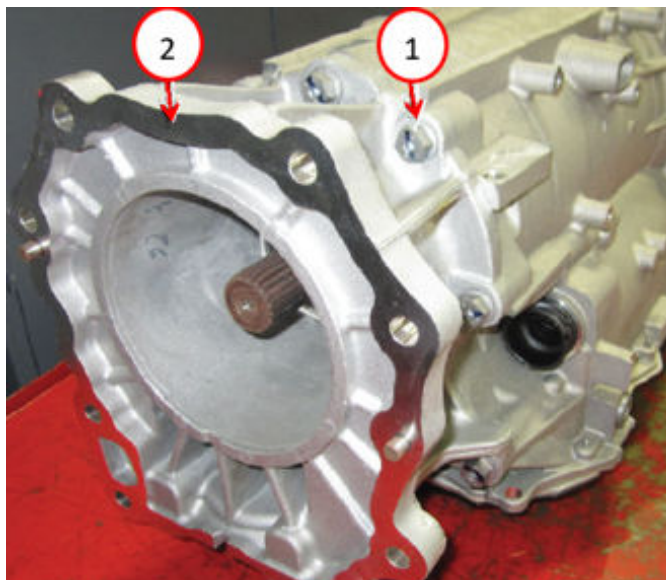

Fig. 53
77. **For 4X4 ONLY if equipped**, position the extension housing and install the extension housing bolts Fig. 53 to 27 N-m (20 Ft. Lbs.).